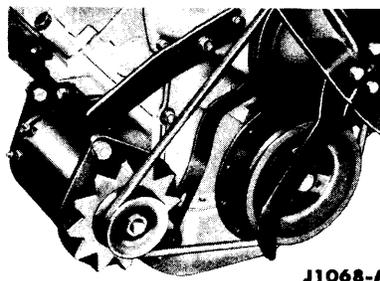

FIG. 2—Generator Mounting
The armature shaft is supported by permanently-lubricated ball bearings which fit into the end plates (Fig. 10). The shaft is keyed to an integral pulley and cooling-fan assembly. The pulley is connected to the engine crankshaft pulley with a belt. The generator mounting is shown in Fig. 2.
2. Remove the adjustment arm to generator bolt, the generator belt, and the 2 pivot bolts from the mounting bracket. Then remove the generator (Fig. 2).